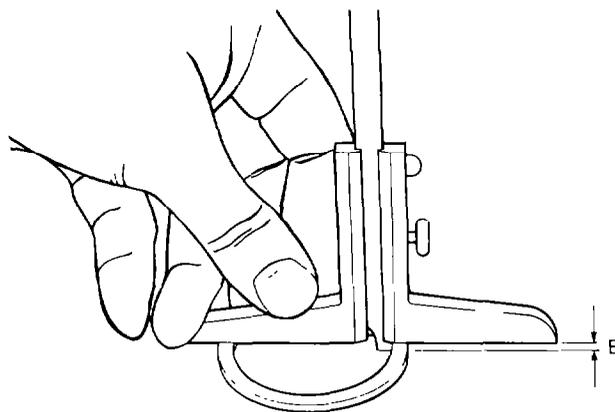

Figure 109 Dimension — Stop to Valve Seal
- (2) Measure the distance between the valve seat and the stop on the valve piston (B in Fig 109) e.g. 7.9 mm.
- (3) Example: